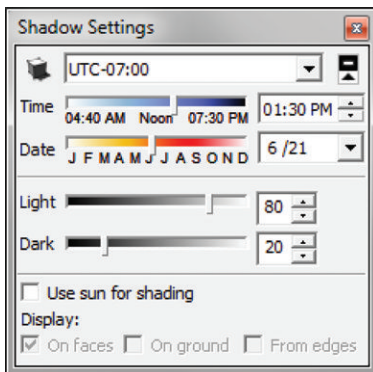

Figure 15.20 The Shadow settings
5. Turn on the shadows (Figure 15.20).